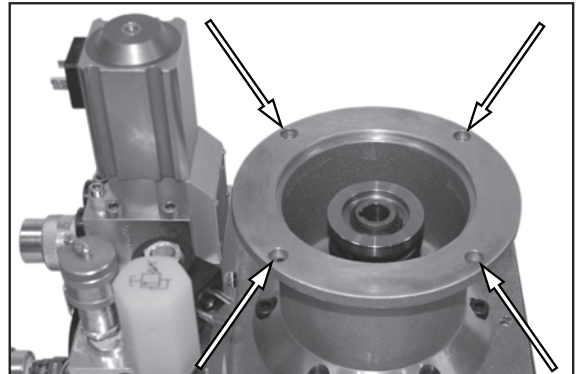

Figure 32.
3. See Figure 32. The orientation of the motor mount holes is very important. Position the mount so the holes are located as shown. To install, reverse the removal procedure. Tighten motor mount bolts in a star pattern and torque to 6.8 Nm (60 in/lbs).